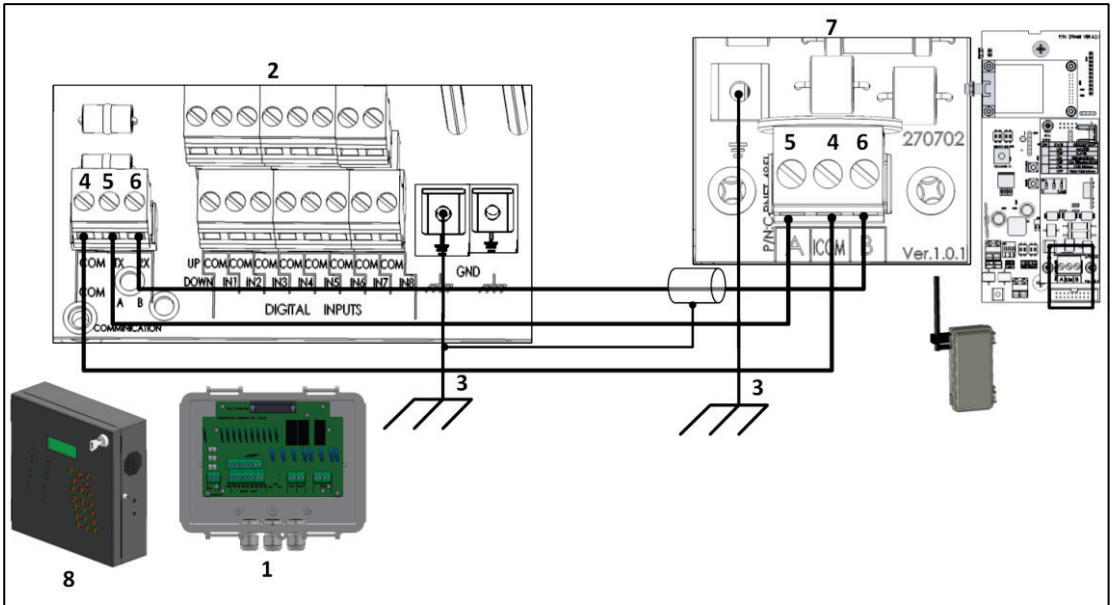

Figure 23: Wiring a Farm Guard external box to a RLINK ONE-485
- Figure 23: Wiring a Farm Guard external box to a RLINK ONE-485
Figure 23 key